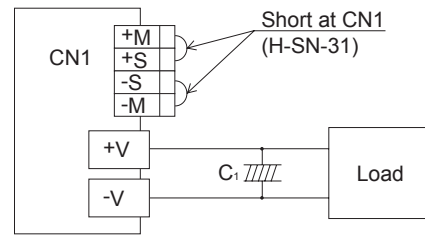
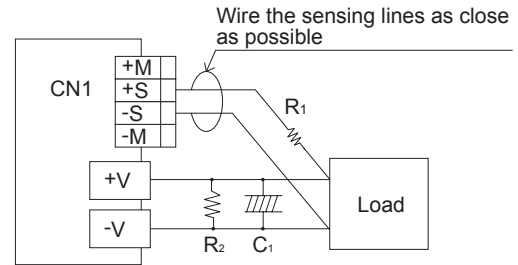

Fig.5.12 When not using remote sensing function
Fig.5.13 When using remote sensing function
- The wire connection when remote sensing is used or not used is shown in Fig. 5.12 - Fig. 5.13.
- ① Wiring must be done carefully. If there is bad connection on the load lines due to loose screws, etc., the load current flows into the sensing lines and the internal circuit of the power supply may be damaged.
- ② Make sure the wires between the load and the power supply are thick enough to keep the line drop less than 0.3V.
- ③ If the sensing wires are long, place C1 and R1 across the load lines.
- ④ Use a twisted pair wire or a shielded wire for the sensing lines.
- ⑤ Do not draw the output current from +M, -M, +S or -S.
- ⑥ The impedance of the wiring or the load may cause the output voltage to oscillate or fluctuate.